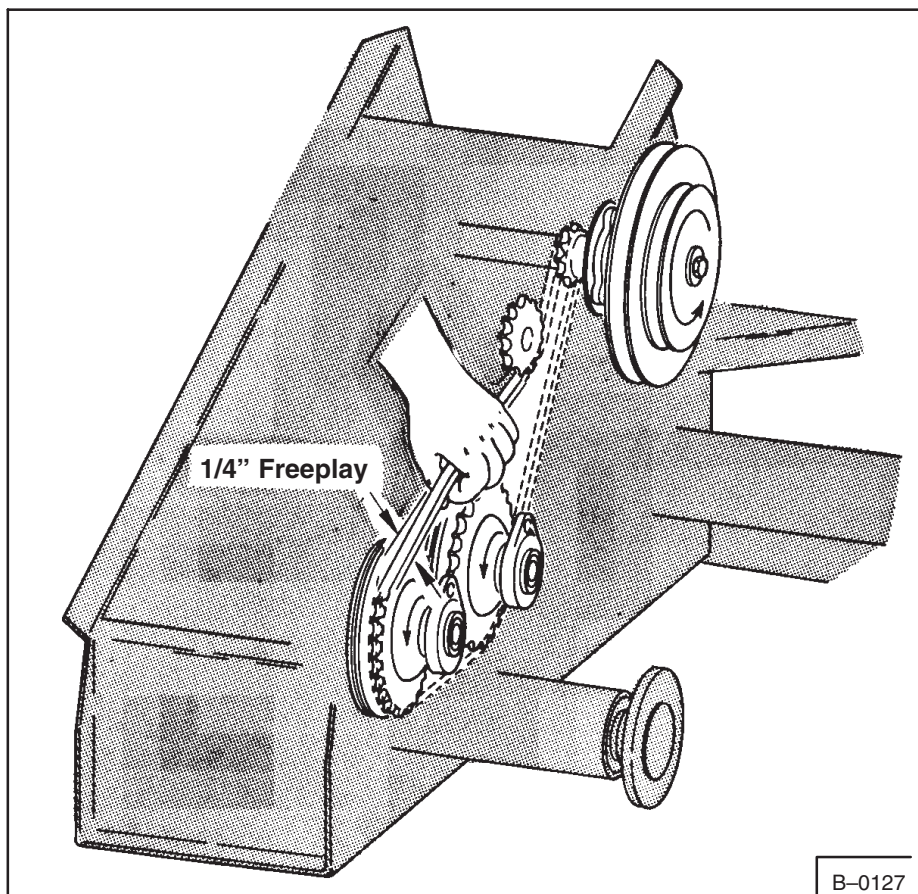
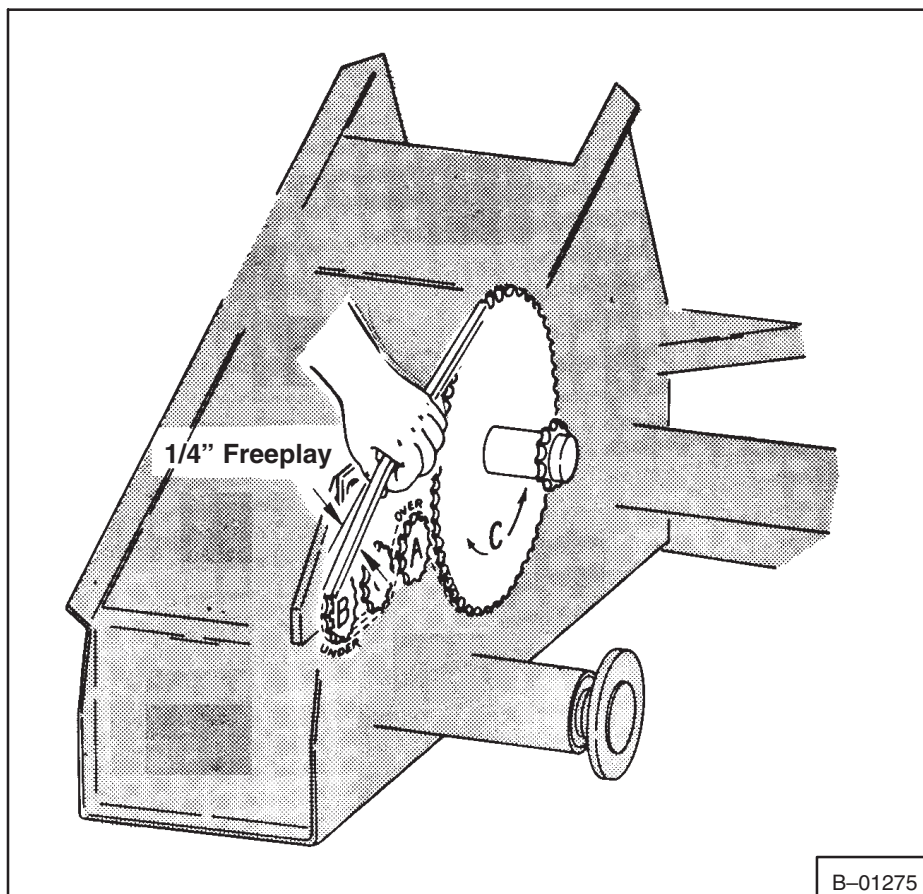
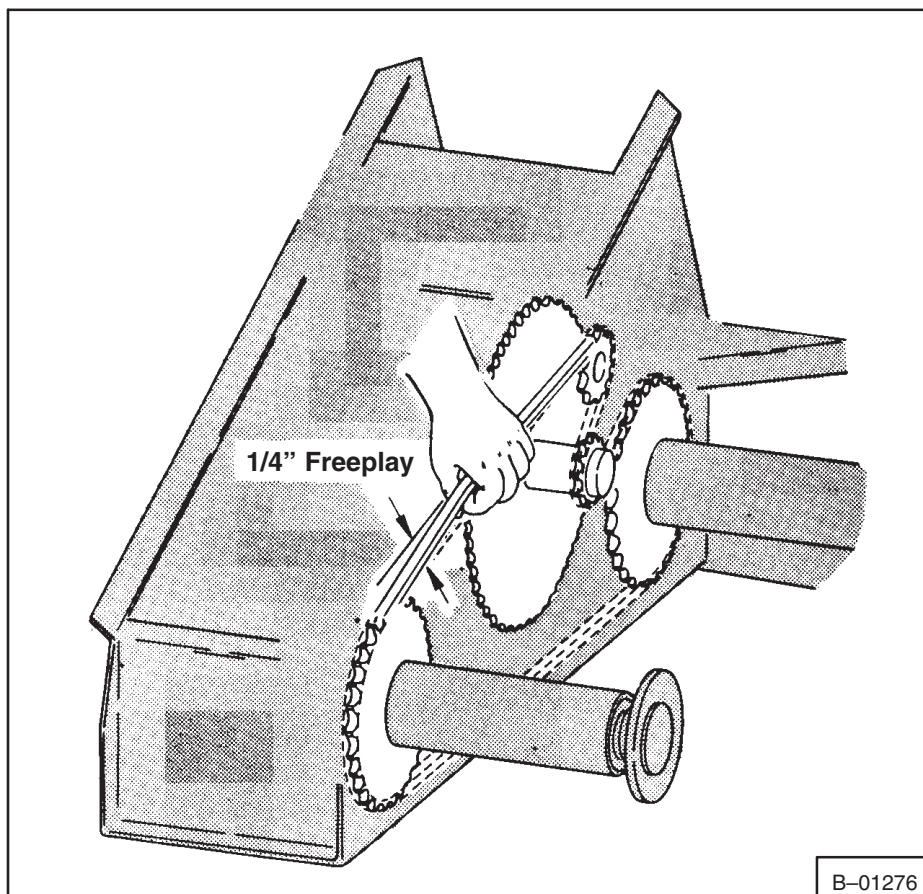
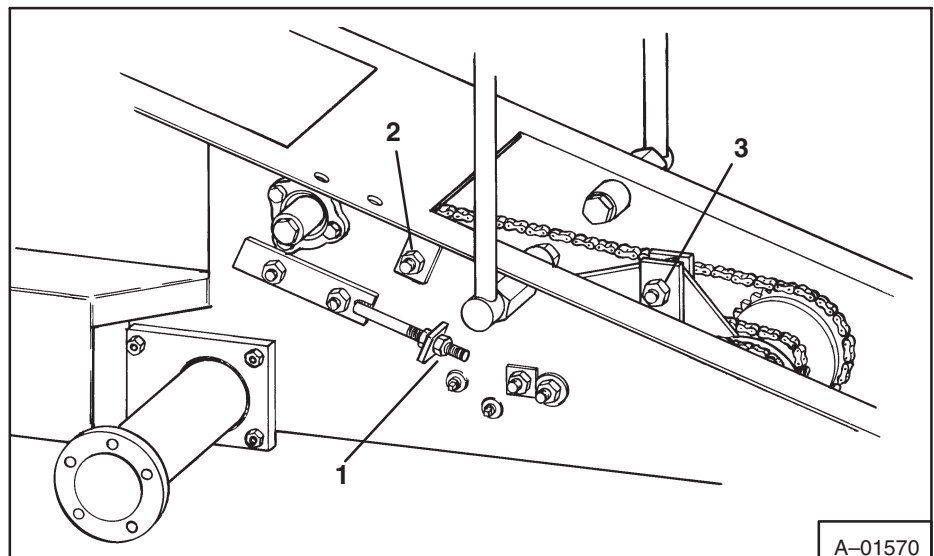

Fig. 28 Outside Clutches & Chain
Fig. 30 Inside Clutch Chain & Sprockets
Fig. 31 Final Drive Chain & Sprocket
Fig. 33 Drive Train Adjustments
The Bobcat has two separate drive trains (located beside each other in the transmission case). Each drive train uses two clutches. Power is transmitted from the engine to the upper jackshaft by a belt. The upper jackshaft drives the outside clutches using a No. 40 roller chain (Fig. 28).
The outside clutch plates always rotate in the same direction. The inside clutch plates will rotate in the same direction when either clutch is engaged, but because of the chain routing on their sprockets (under B and over A, Fig. 30) rotation of sprocket C will depend on which clutch is engaged.
3. Check the tension of the final drive chains. They should have about 1/4" of freeplay with slight finger pressure (Fig. 31). Final drive idler sprockets are adjusted from outside of the machine (Fig. 33, Item 1). To adjust, loosen the 15/16" and 3/4" bracket holding nuts and turn the adjusting nuts until desired tension is set. After the chain tension has been set it is necessary to align the sprocket while tightening the holding nuts. With the holding nuts loose the sprocket may be "cocked" at a slight angle.
4. Check the tension of the outside clutch chains (Fig. 28). They should have a minimum of 1/4" freeplay at the high spot on the sprocket with slight finger pressure. The outside clutch chain idler sprockets are adjusted from outside of the machine (Fig. 33, Item 2). To adjust, loosen the 5/8" nut and move the idler until desired tension is set. Tighten the nut to 60 ft.-lbs. torque.
5. Check the tension of the inside clutch chains (Fig. 30). They should have about 1/4" freeplay with slight finger pressure. The inside clutch chain idler sprockets are located on the divider plate, between the left and right hand drive systems (Fig. 33, Item 3). To adjust, loosen the mounting bolts and slide the idlers until desired tension is set. Tighten the holding nuts to 40 ft.-lbs. torque.